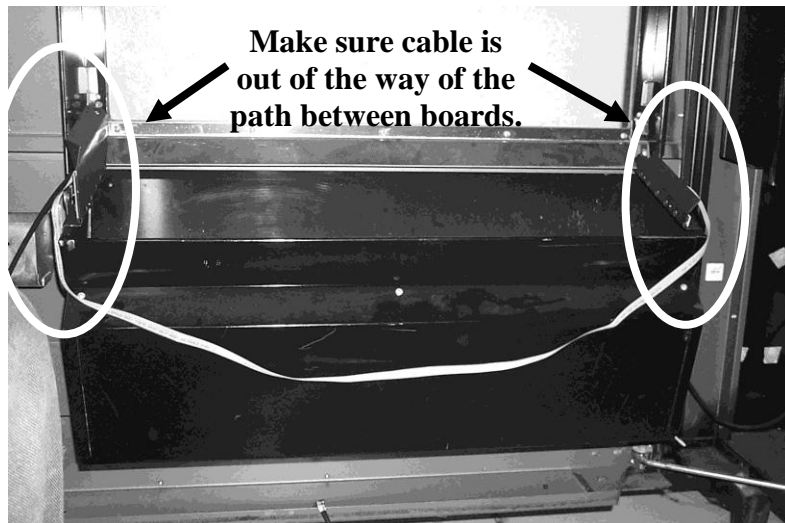

Figure 22.
23. Confirm these two boards are connected with the Sensor Board Cable. The connectors are polarized so please take note to how they are plugged in. The cable should run along the outside of the bin. Wire clasps are provided if needed. Make sure that this cable is OUTSIDE of the bin and not in the path of the boards. The two boards should be able to “see” each other with no obstructions. Refer to Figure 22.